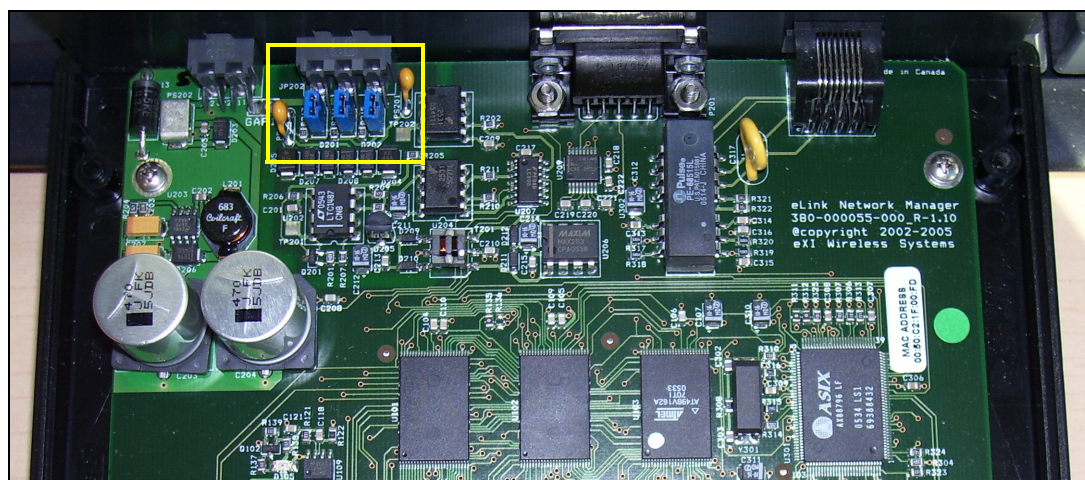

Figure B-1: Network Manager Termination Jumpers
- 3 Remove the three blue jumpers (**R215**, **R216**, and **R217**). See Figure B-1 below.